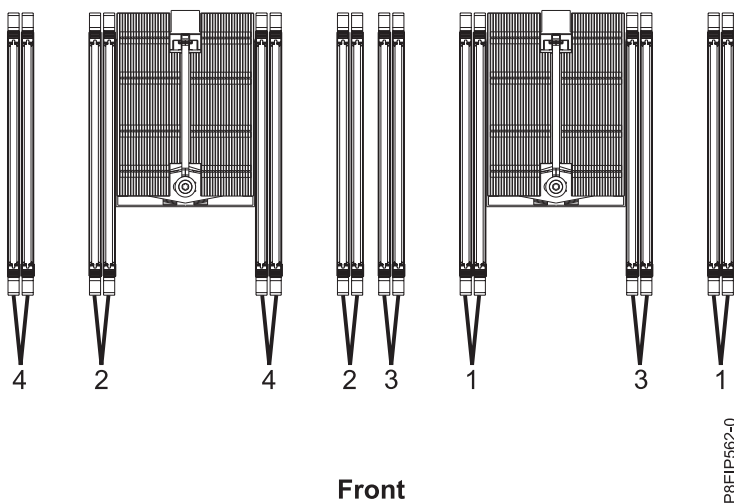

Figure 19. Memory slot locations and plugging sequence
- The memory DIMMs need to be added in a sequence. Use Table 4 on page 23 and Figure 19 on page 23 to determine the memory placement.